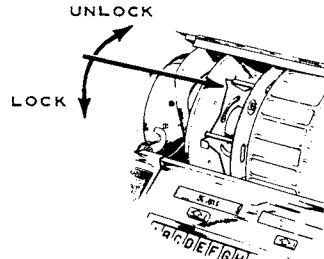
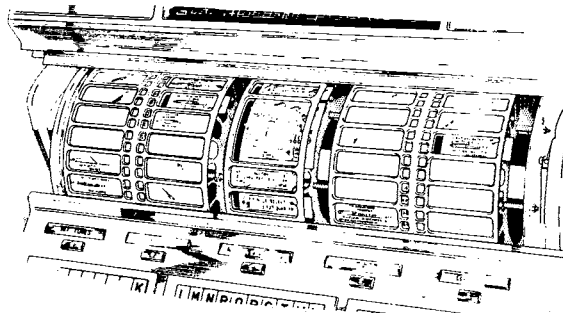

Figure 7.
Figure 8.
2. Unlock the Drum Lock Plate, Figure 7, and slide the drums apart as required for loading of appropriate title strips and pricing windows by sliding into place, Figure 8.